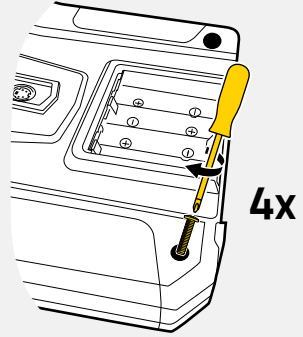

Fig. 21
12. Close the housing and insert and tighten the four screws (see [Fig. 21]).